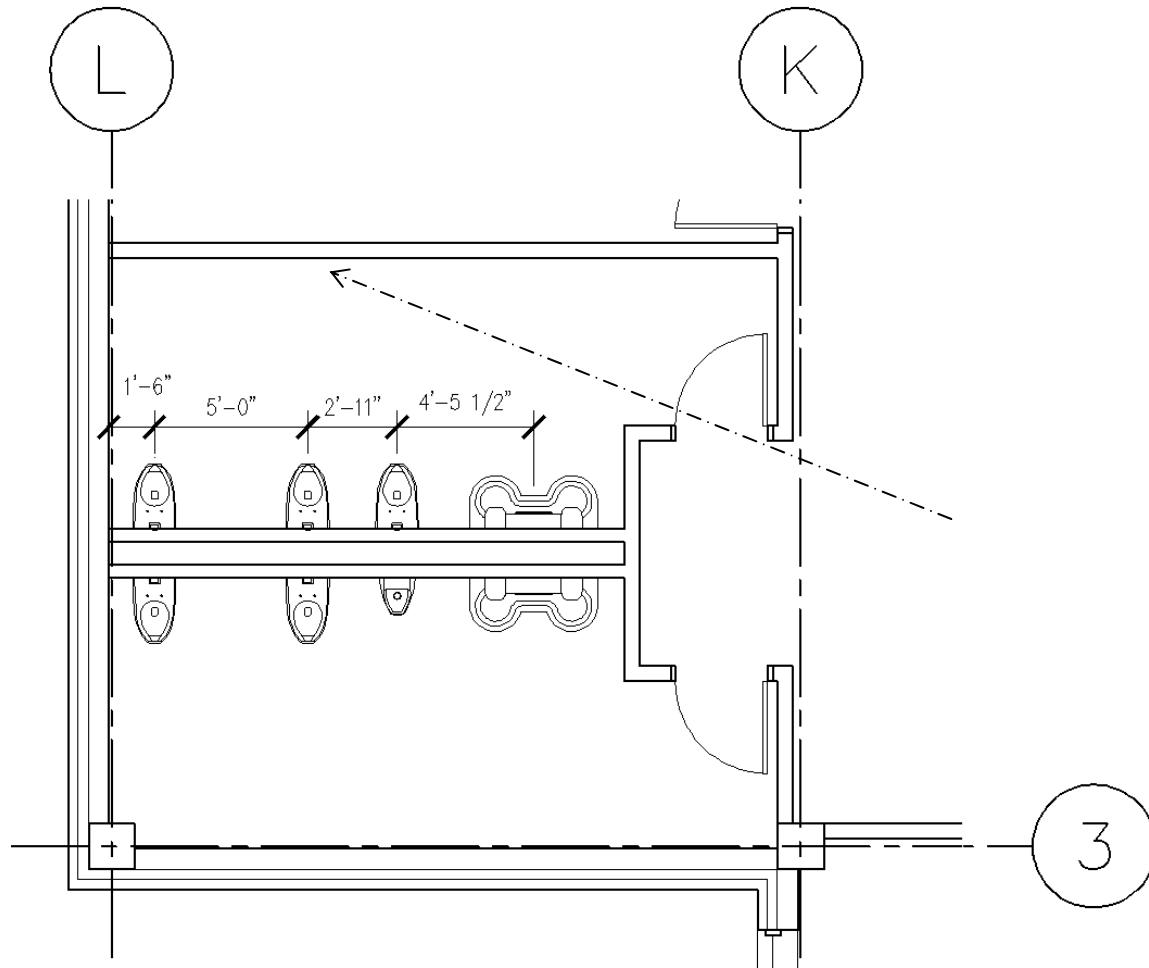
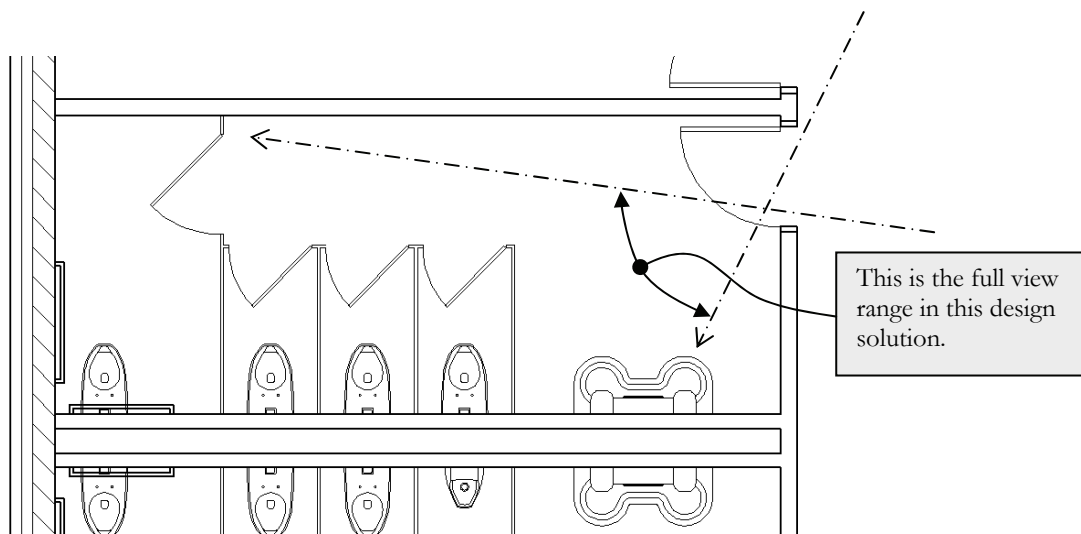

FIGURE 4-1.8 Place the fixtures shown; dashed line shows sightline
FIGURE 4-1.9 Dashed lines reveal unacceptable sightlines into the toilet room
16. Insert the plumbing fixtures as shown in Figure 4-1.8, *plus*:
- b. See **Figure 4-1.7a** for the grab bar dimensions; see Figure 4-1.9 for grab bar locations.
- c. The northern room has (3) toilets and a Lavatory System.
- d. The southern room has (2) toilets, a urinal and a Lavatory System (obviously this is the Men's toilet room).
**Sight-lines** are typically explored by drawing a line from the adjacent hallway (or space), through the door opening, into the toilet room. Looking at Figure 4-1.8 you can see the sight-lines are quite acceptable. As previously mentioned this design solution takes up a fair amount of floor space but is necessary.
An unacceptable design solution is shown in **Figure 4-1.9**. The toilet room is much larger and can even have another toilet fixture without the door modification for sight-lines; also, the door is right off the circulation path which can be problematic. Notice two lines are shown to visualize the full visual range. Granted, some of this view is obstructed by a person's body as they pass through the door opening; it is still an undesirable design solution.